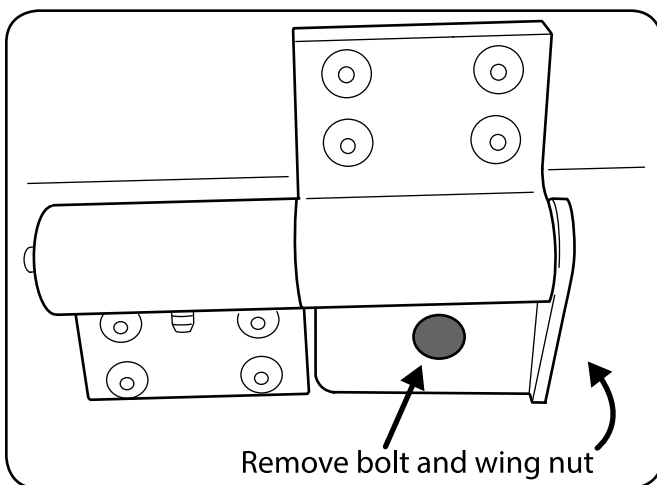

Figure 4-8
1. Remove wing knob, bolt and retaining bracket from the sides and the tailgate. See "Figure 4-8".